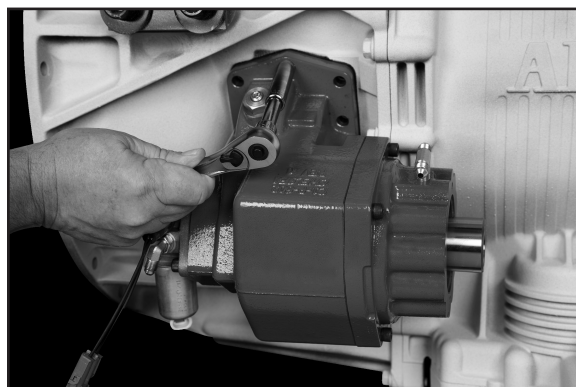

Figure 17
6. Position the PTO and secure it with the top cap screw (**Fig. 17**).